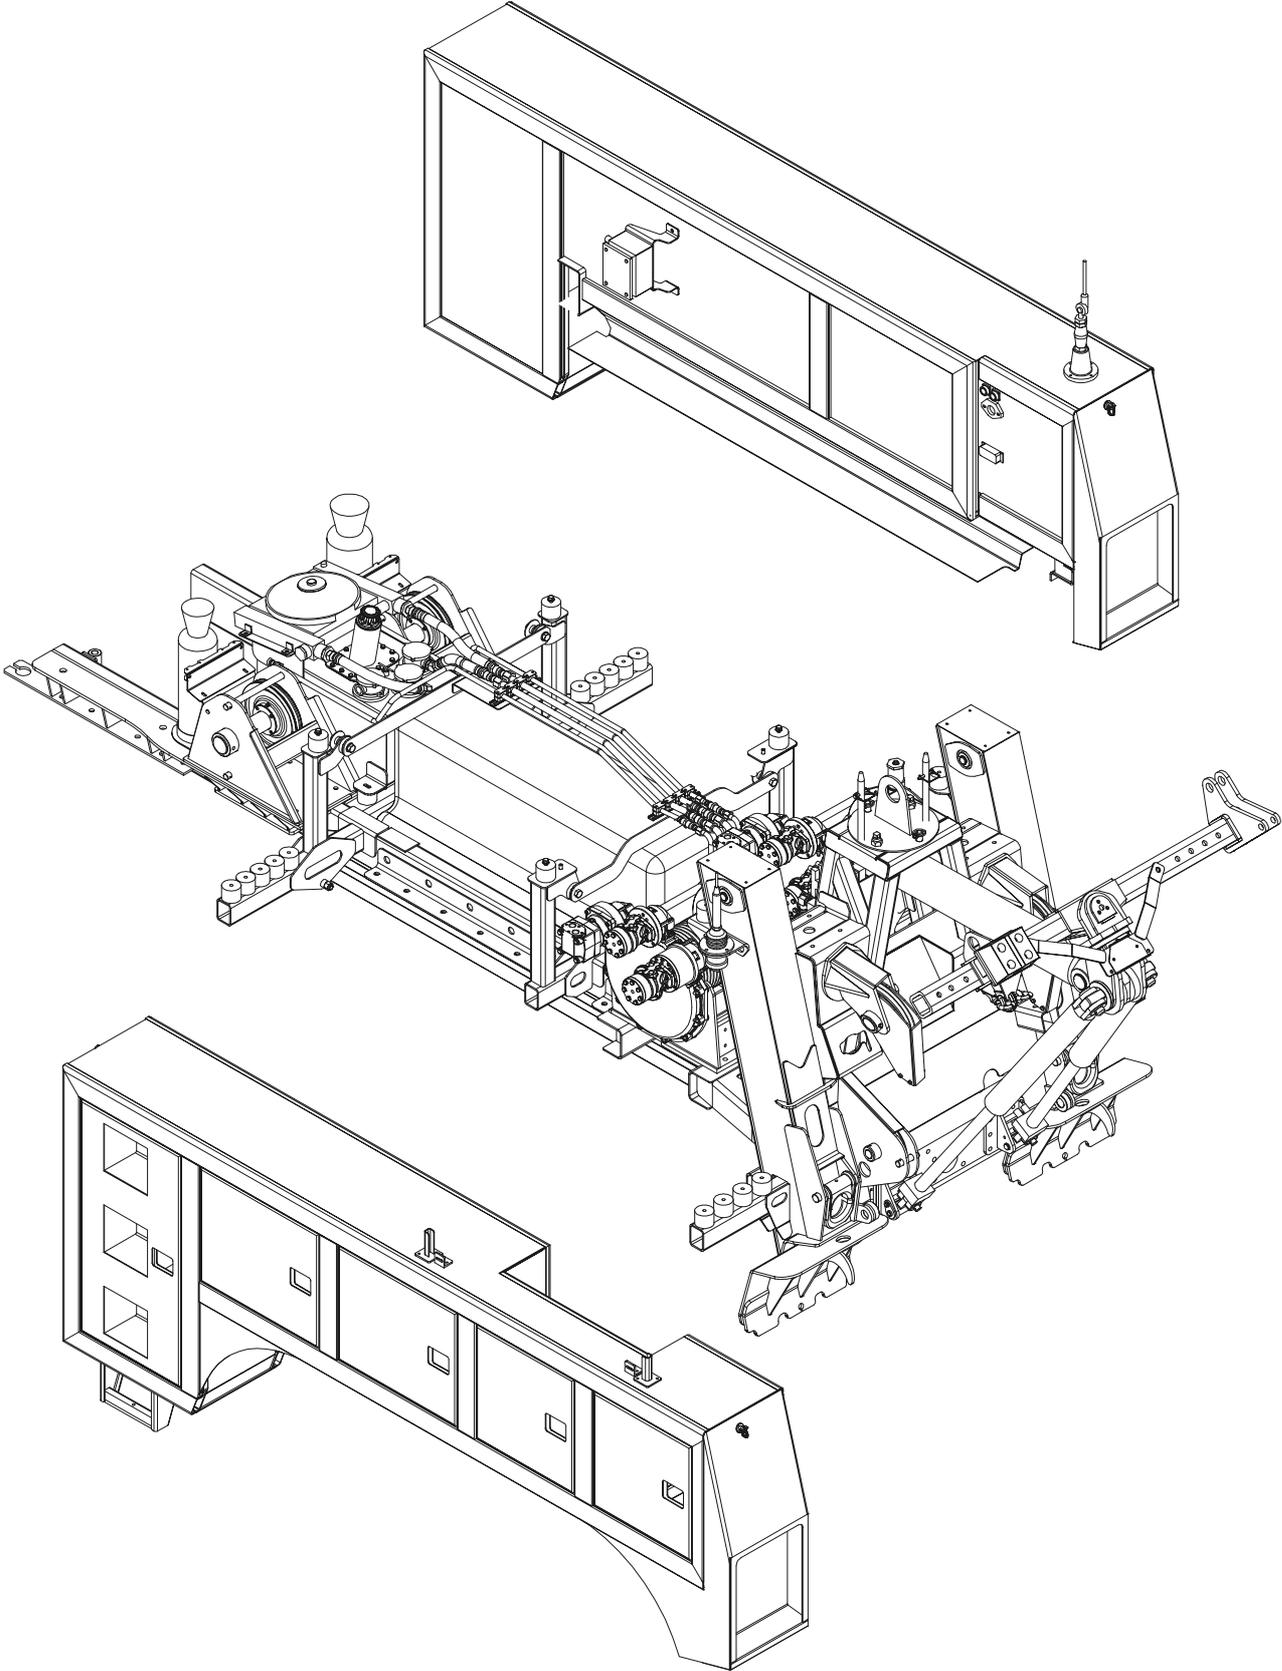

Figure 74 – Recovery Platform
- 102. **Removal.** To remove the recovery platform and crane assembly, proceed as follows (refer to Figure 74):